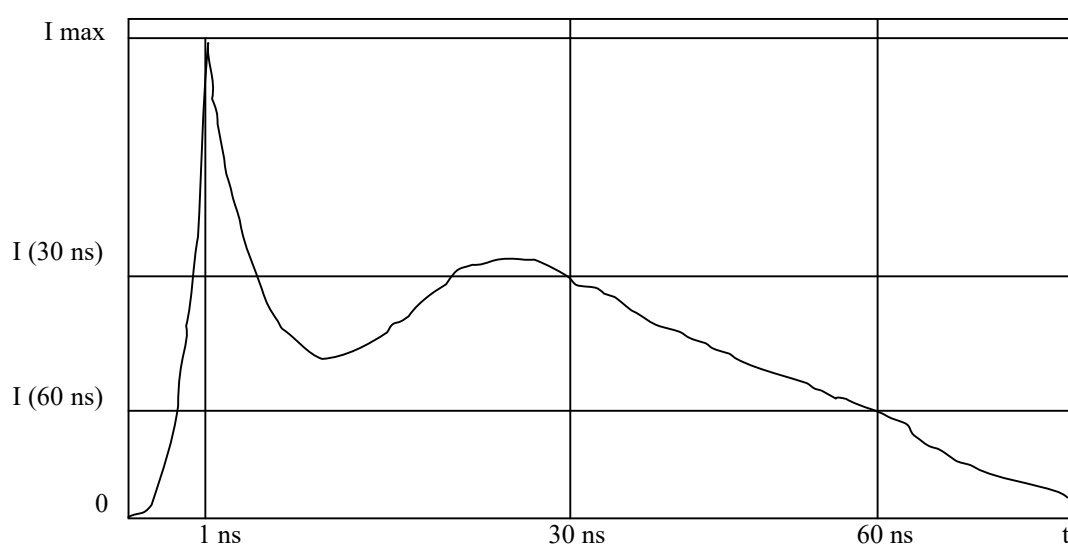

Fig. 1 Current discharge pulse wave form in contact discharge.
• current discharge pulse wave form in contact discharge	ref. Figure 1